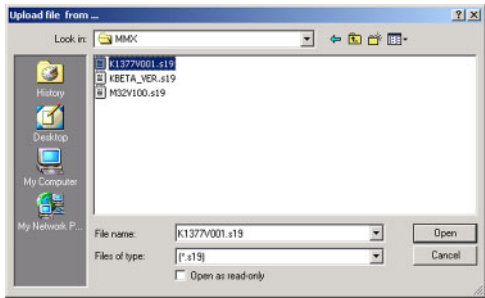

Figure 4-8 — Browser window
4. Click OK. When the Browser window (figure 4-8) opens, find the updated firmware file (where you previously saved it) and select the file, then click Open to load it.